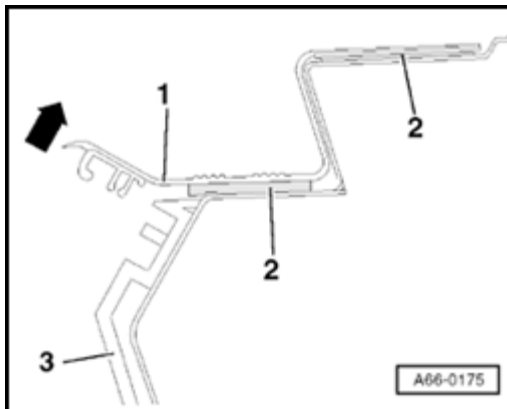

Fig. 1 Outer scuff plate, removing
- Unclip outer scuff plate prior to removing sill panel trim ⇒ Fig. 1 .